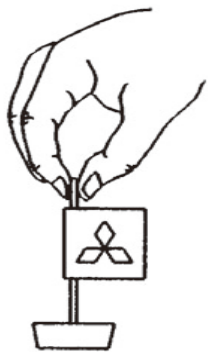

Fig 1
- ① **Fig 1.** By holding the tip of the torque wrench, gently tighten the screw until it is finger tight.